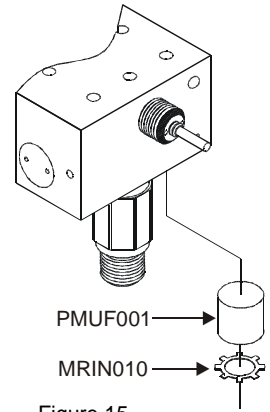

Figure 15
6.3.7. Note: Some special order blenders may not have a bleed in the auxiliary output. This is by design. If your blender does not have this bleed, then skip this step. If the blender has an auxiliary output with a bleed on the side, then remove the calibration setup from the primary output and connect it to the auxiliary output. Set the flow to 2 lpm. Using tubing with an appropriate fitting on one end that will cover the bleed port on the bottom of the blender, position this snugly over the bleed port and connect the other end to a flow measurement device. Verify a bleed flow rate of 10–12 lpm (2.5-4.0 lpm at 50 psi gas pressure and set to 60% Oxygen for low-flow blenders, 5.5-6.5 lpm for 0-50 LPM blenders). If it is not within this specification, inspect the bleed orifice under the muffler (see Figure 15) or the bleed orifice in the auxiliary output fitting for occlusion.